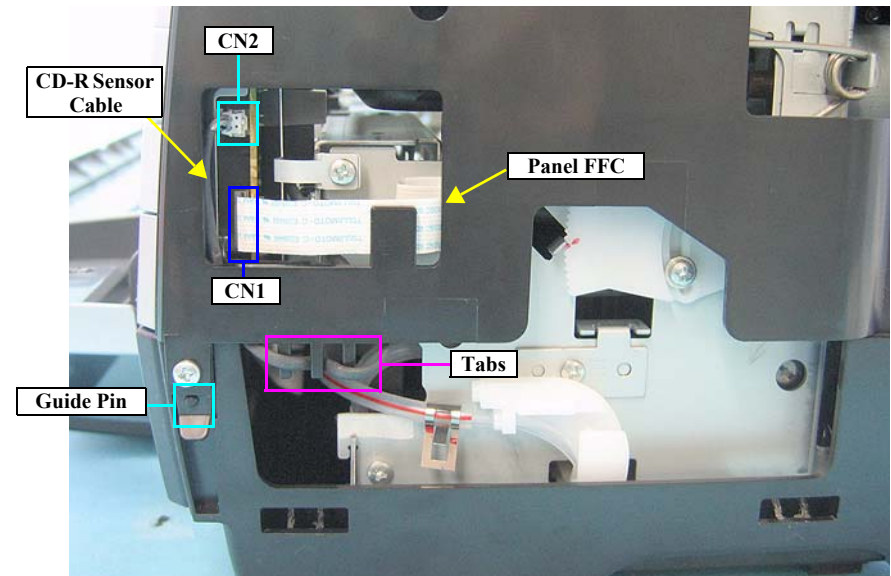

Figure 4-13. Disconnecting the CD-R Sensor Cable and Panel FFC
- Referring to Figure 4-13, correctly route the Panel FFC and CD-R Sensor Cable.